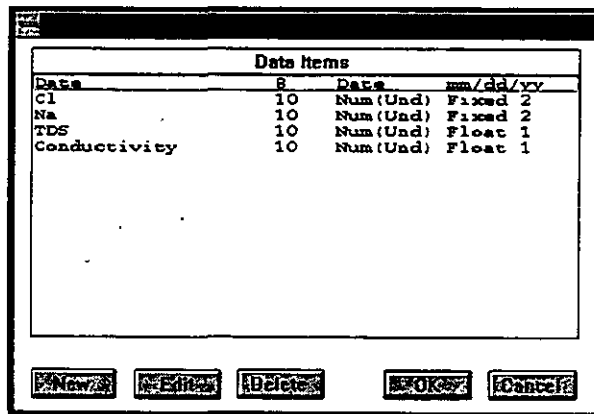

Figure 20-19
6. Repeat the same for TDS and for Conductivity, but select floating point for the data type, and decrease the number of decimal digits to 1. The list should now contain 5 parameters as shown in Figure 20-19.